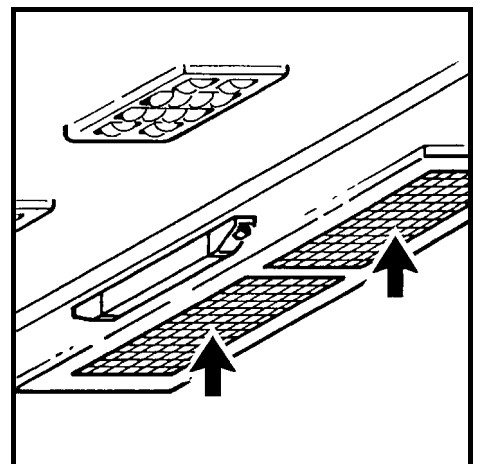

Fig. 45
- Clean the recirculating air filter on the evaporator in the cab (Fig. 45).